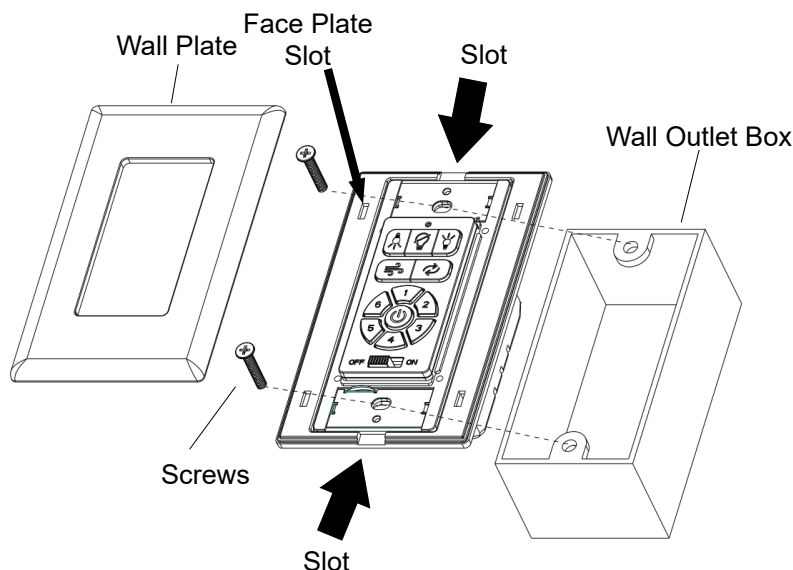

FIG. 2
NOTE: Before installing the transmitter, remove the wall plate (insert a small, flathead screwdriver into the slots at the top and bottom of the mounting plate, and carefully pry the wall plate off of the mounting plate) then remove the face plate (insert a small, flathead screwdriver into the slots at the top and left side of the face plate, and carefully pry the face plate off of the transmitter). **(Fig. 2)**
Step 3. Secure wall control unit with 2 screws previously removed. **(Fig. 2)**.